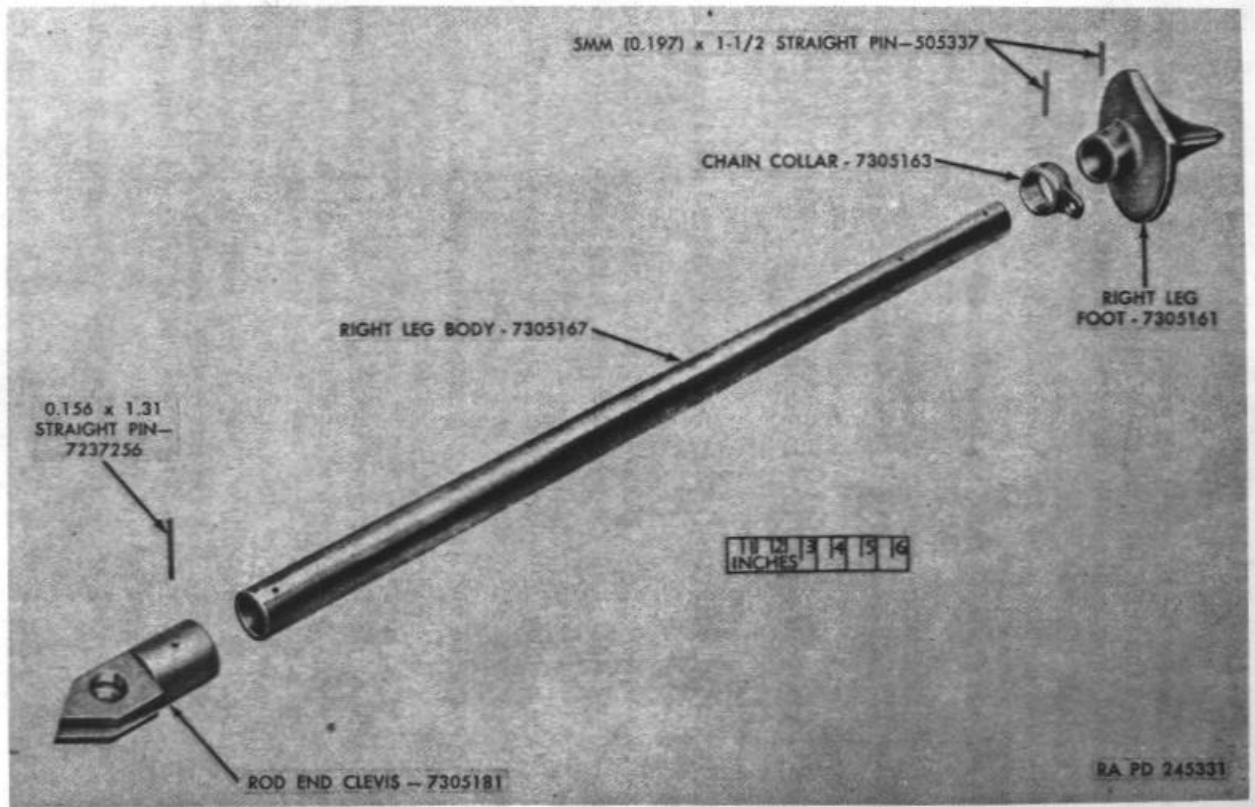

Figure 44. Right leg group - 81mm mortar mount M23A1-exploded view.
- (5) Slide the sliding bracket locking sleeve (J), sliding bracket (K), adjusting nut locking ring (L), sliding tube sleeve (P) with lower and upper bushings (N and R), adjusting nut spring (T), and adjusting nut spring washers (S) off the left leg body (D).
e. To disassemble the right leg group, drive out the straight pins which secure the right leg foot, chain collar, and rod end clevis; heat leg foot and chain collar until the solder is melted, and pull them off right leg body (fig. 44).
Slide rod end clevis off right leg body (fig. 44).
- a. To assemble right leg group, proceed as outlined in (1) and (2) below.
- (1) Install rod end clevis on right leg body (fig. 44), alining pin hole in clevis with pin hole in leg body. Secure with new 0.156 x 1.31 straight pin (fig. 44).
- (2) Assemble chain collar and right leg foot with new 5-mm (0.197) x 1 1/2 straight pins (fig. 44).
- b. To assemble left leg group, proceed as outlined in (1) through (7) below.